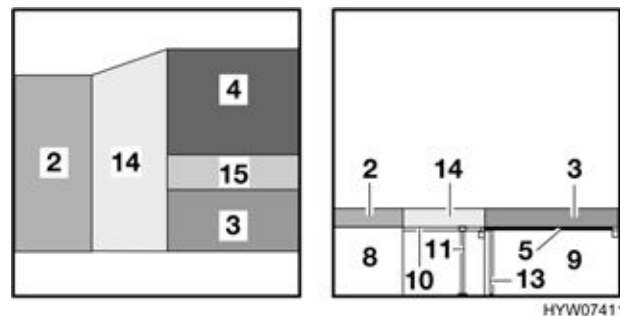

Fig. 89 After conversion
- Lay the back cushion (Fig. 89,3) of the central bench on the table-top.
- Insert the small additional cushion (Fig. 89,15) between the seat cushion (Fig. 89,4) and the back cushion (Fig. 89,3).
- Lay the big additional cushion (Fig. 89,14) onto the bedding box extension.